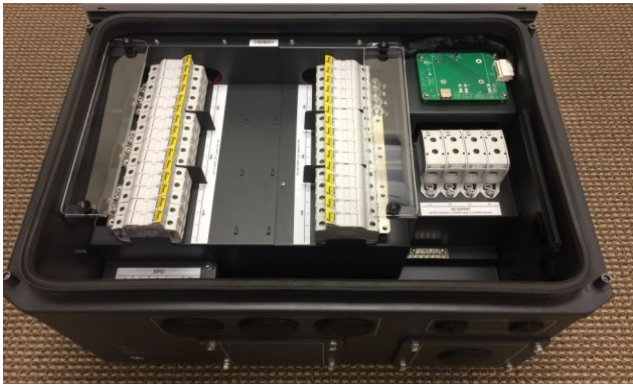

Figure 10-1 Remove Wire Box Cover
2. Remove the wiring box cover (Figure 10-1).